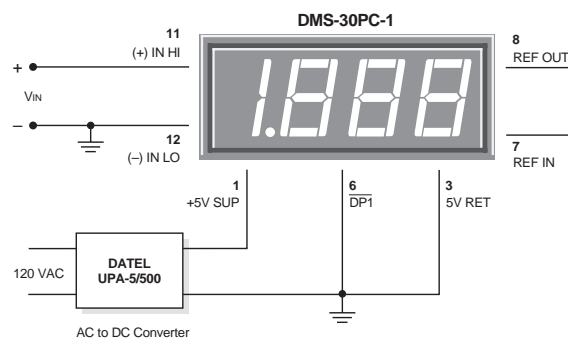

Figure 2. Single-Ended Input Configuration
1. **Single-Ended Input Configurations:** True single-ended measurements can be made with any DMS-30PC meter. The circuit of Figure 2 avoids problems normally associated with ground-loop currents. Separate ground runs should be used for 5V RETURN (pin 3) and (-) INPUT LO (pin 12). This will ensure that large LED currents will not flow in the wiring that connects  $V_{IN}$  to (-) INPUT LO (pin 12). Ground-loop currents can cause unstable readings.